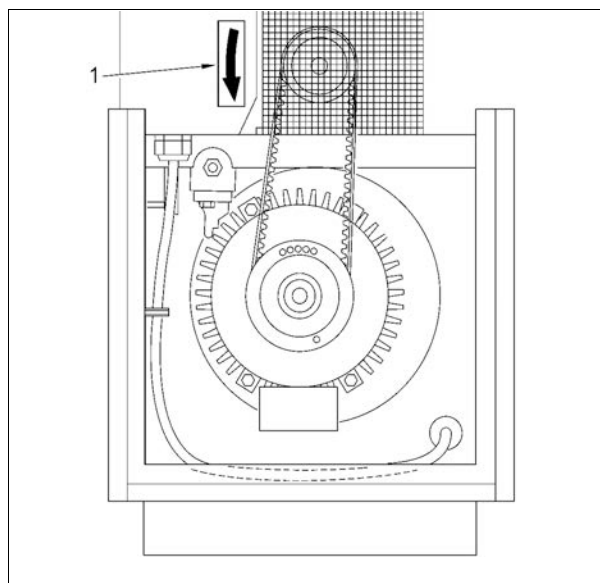

Fig. 15
- Temporarily open the hood to check the direction of rotation, for specified direction, see (- 1 - Fig. 15)